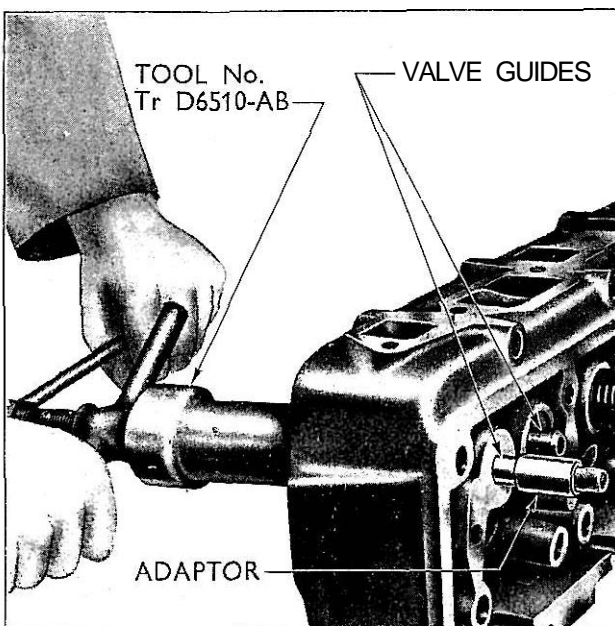

Fig. 11
- 2 Locate the guide, then the correct adaptor. (See Fig. 11.) "Code 3" is suitable for all valve guides where the head incorporates the valve spring recess. Code " Diesel Exhaust " is used for guides fitted to cylinder heads without a spring recess.